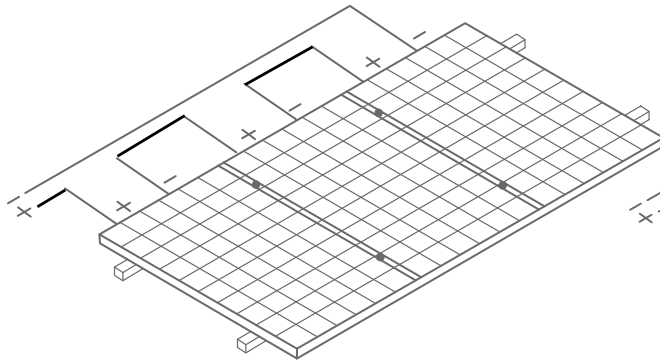

Figure 5 Series connection mode
- Do not use different types of modules in the same solar photovoltaic system. When the modules are connected in series, the voltage of each series cannot exceed the maximum voltage of the system (the series connection mode is shown in Figure 5 below). Reference formula of maximum series number of modules: $\text{Maximum system voltage of modules} / (1.25 * \text{open circuit voltage})$.